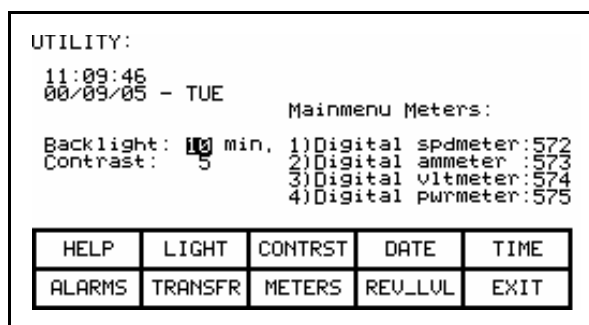

Figure 3.11 – Utility Light
To change the duration of the delay, press the [F2] key. The current backlight delay will be shown in reverse video (Figure 3.11). The value can be adjusted from 0 to 60 minutes. A value of zero (0) will disable the delay, keeping the light on indefinitely. Press the [cursor up] or [cursor down] keys to change the value by a resolution of 1 minute. Press the [cursor left] and [cursor right] keys to change the value by a resolution of 10 minutes. To abort the change, press the [backspace] key and the setting will return to its original value. To accept the change press the [enter] key. The backlight delay has been saved.